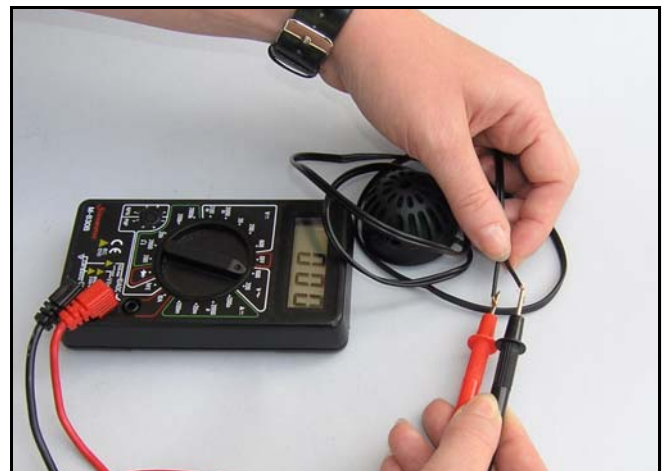

Figure 2 Multimeter, ohm reading
2. Use a multimeter to measure across the two resistor cables, figure 2.